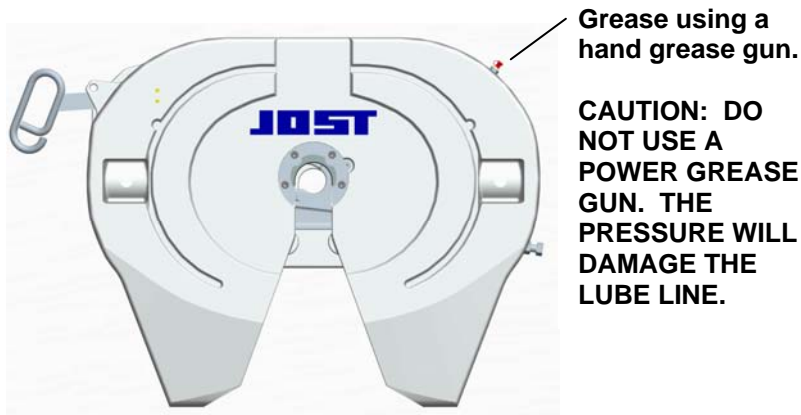

FIGURE 1
1. Lubricate the kingpin lock through the grease zerk provided on the skirt of the fifth wheel (see figure 1).